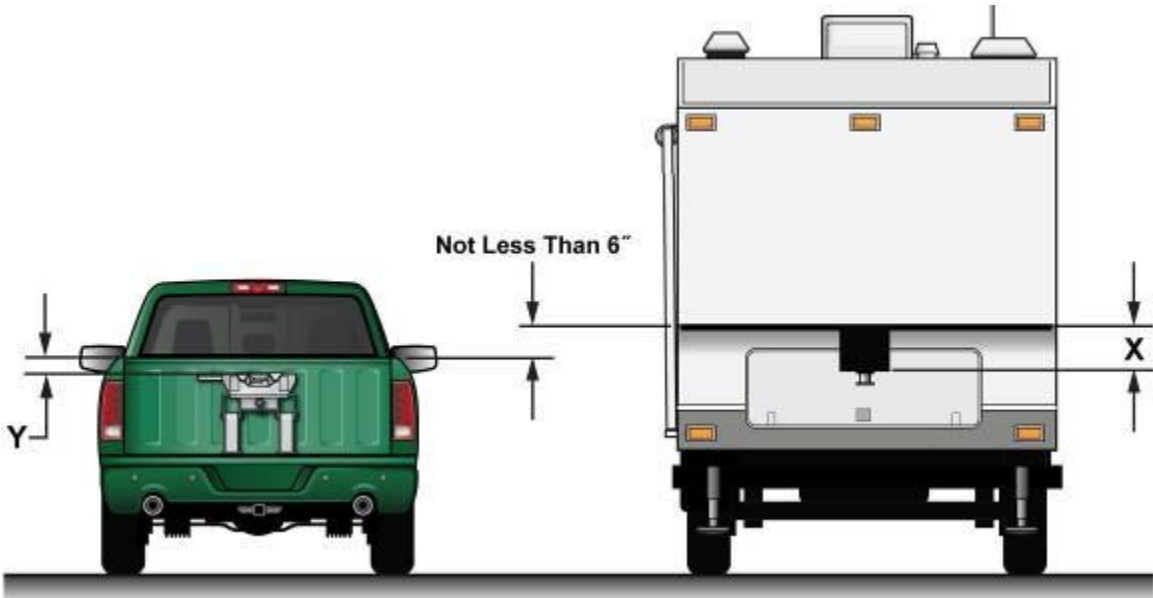

Figure 1
1. Verify that the cross member is set at the proper height to provide a minimum of 6" clearance between the bottom of the trailer nose and the top of the truck bed sides and allows for a level-towing attitude of the 5th Wheel Trailer (See Figure 1 below).
With top face of head level measure up to top of pickup box (dimension Y in Figure 1). On the trailer measure up from the face of the pin box to the underneath of the trailer (dimension X in Figure 1). Measurement X less measurement Y gives the amount of clearance between the top of the pickup box and the underneath of the trailer.